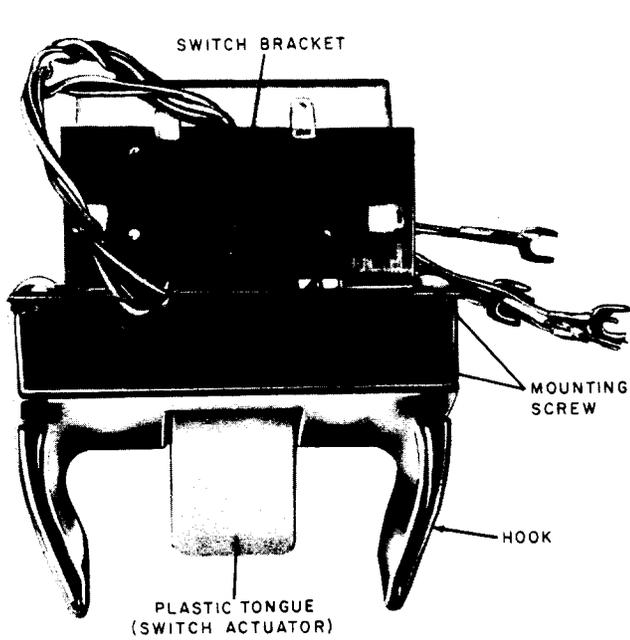

Fig. 15—263A Line Switch
2.41 The **263A** switch (Fig. 15) is a card operated line switch similar to that used in 750-type panel telephone sets. The contacts are arranged for use with speakerphone and 1A, 1A1, or 1A2 Key Telephone Systems.